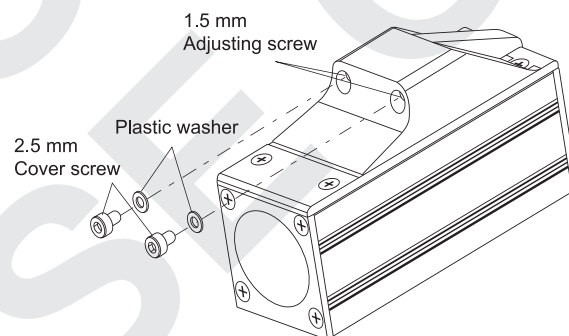

Figure 22: Scope Adjustment Screws
2. Expose the adjustment screws. Using a 2.5 mm Allen wrench, remove the cover screws as shown in Figure 22.